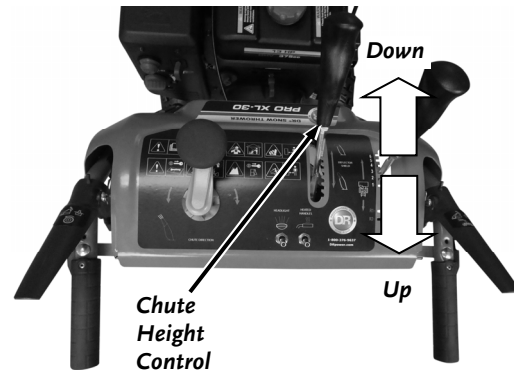

Figure 33
1. Move the Chute Height Control forward to lower the Chute Deflector for Blowing the snow shorter distances (**Figure 33**).